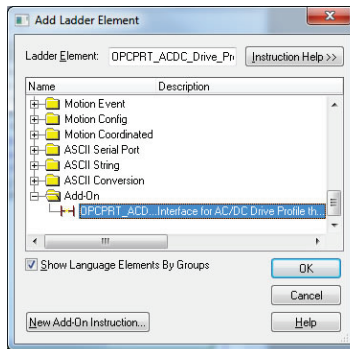

Figure 64: Add AC/DC Drive Profile Add-On Instruction
- 8) Select the AC/DC drive profile add-on instruction in the Add-On folder. Refer to Figure 64.